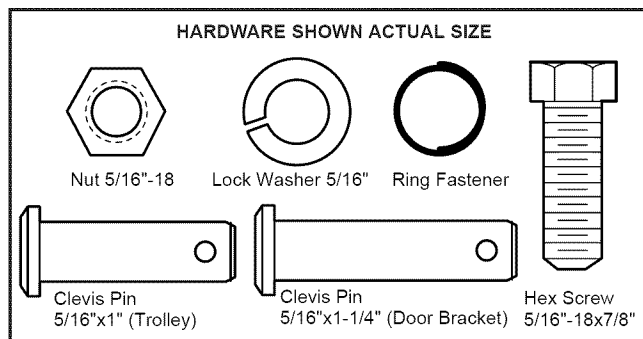

Figure 3
- **Figure 3, Hole alignment alternative:**